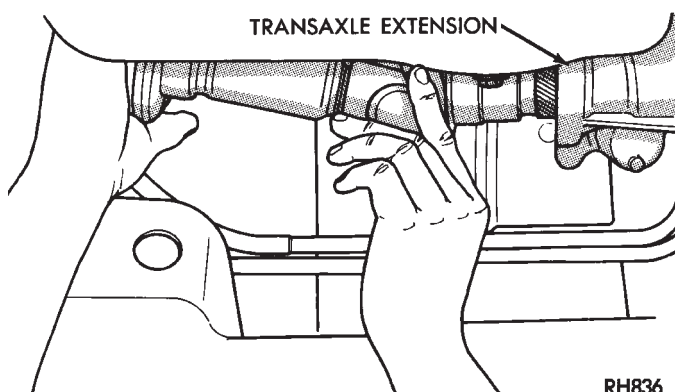

Fig. 3 Removing Intermediate Shaft Assembly
(4) Remove assembly from transaxle extension by pulling outward on the yoke (Fig. 3).